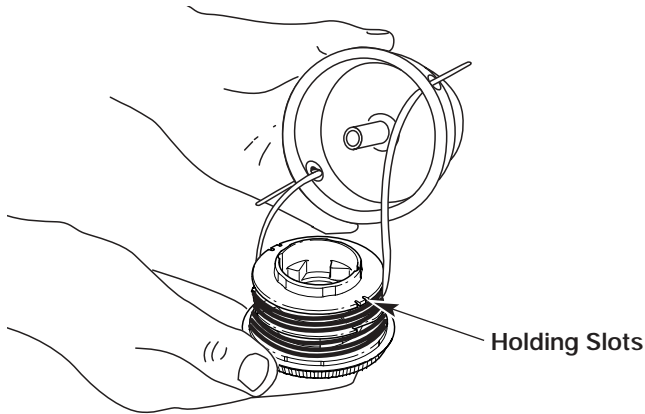

Figure 22
3. Insert the ends of the prewound inner reel line into the outer spool eyelets. See Figure 22. Push the new inner reel, arrow side up, into the outer spool.
3. Pull the inner reel with existing line from the outer spool. See Figure 22.